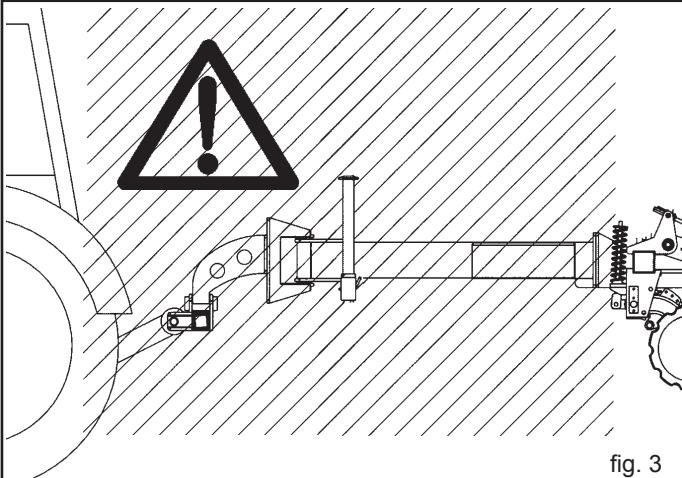

fig. 3
- 5) It is absolutely forbidden to stand between the tractor and linkage for manoeuvring the lifting controls from the outside (Fig. 3).
- 6) It is absolutely forbidden to stand in the space between the tractor and the equipment (Fig. 3) with the engine running. Enter between only after having activated the parking brake and placed a properly-sized jam or rock under the wheels to block them.